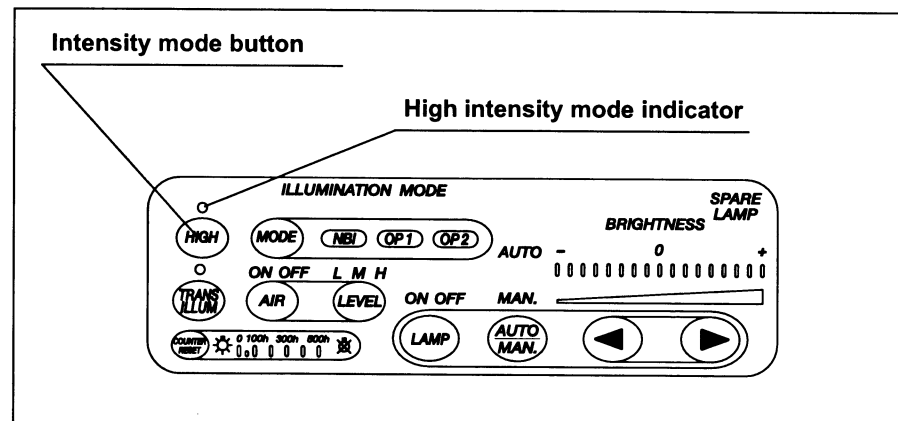

Figure 4.10
1. Press the intensity mode button. The high intensity mode indicator lights and the intensity of the examination light becomes automatically high (see Figure 4.10).